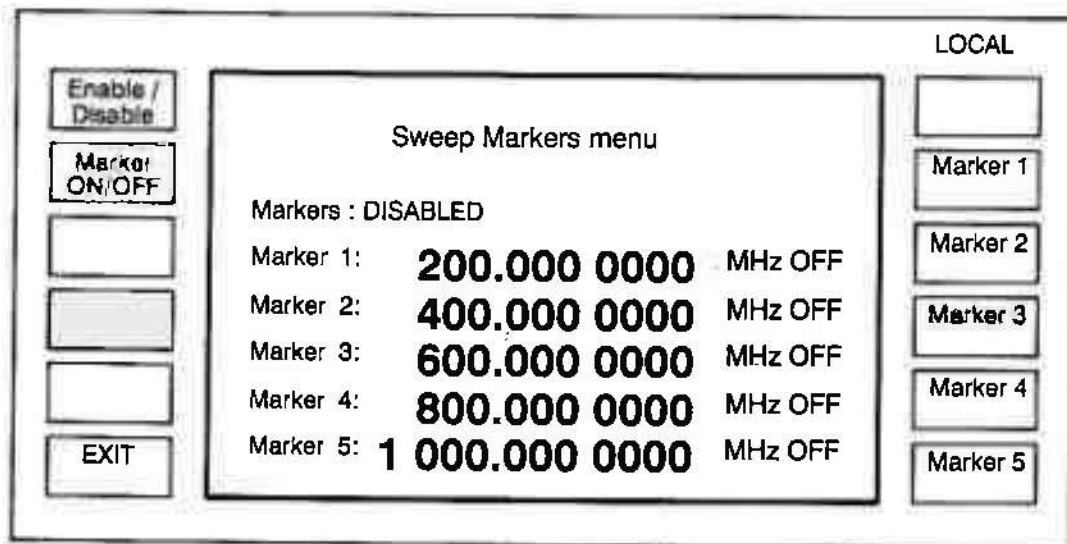

Fig. 10 Markers Menu
41. A facility exists for producing markers, controlled by the Markers Menu, see Fig. 10.